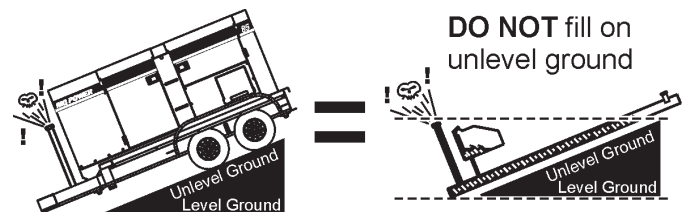

Figure 3. Only Fill on Level Ground
1. **Level Tanks** – make sure fuel cells are level with the ground. **ALWAYS** place trailer on firm level ground before refueling. Failure to do so will cause fuel to spill from the tank before reaching full capacity. See Figure 3 below.